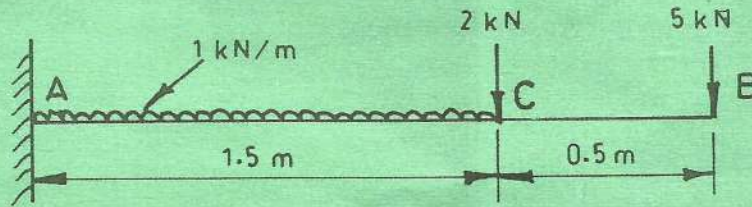

Fig. 2
- (ii) **Figure 2** shows a loaded cantilever beam. Using Mohr's theorem, determine deflection at the free end in terms of EI . (8 marks)